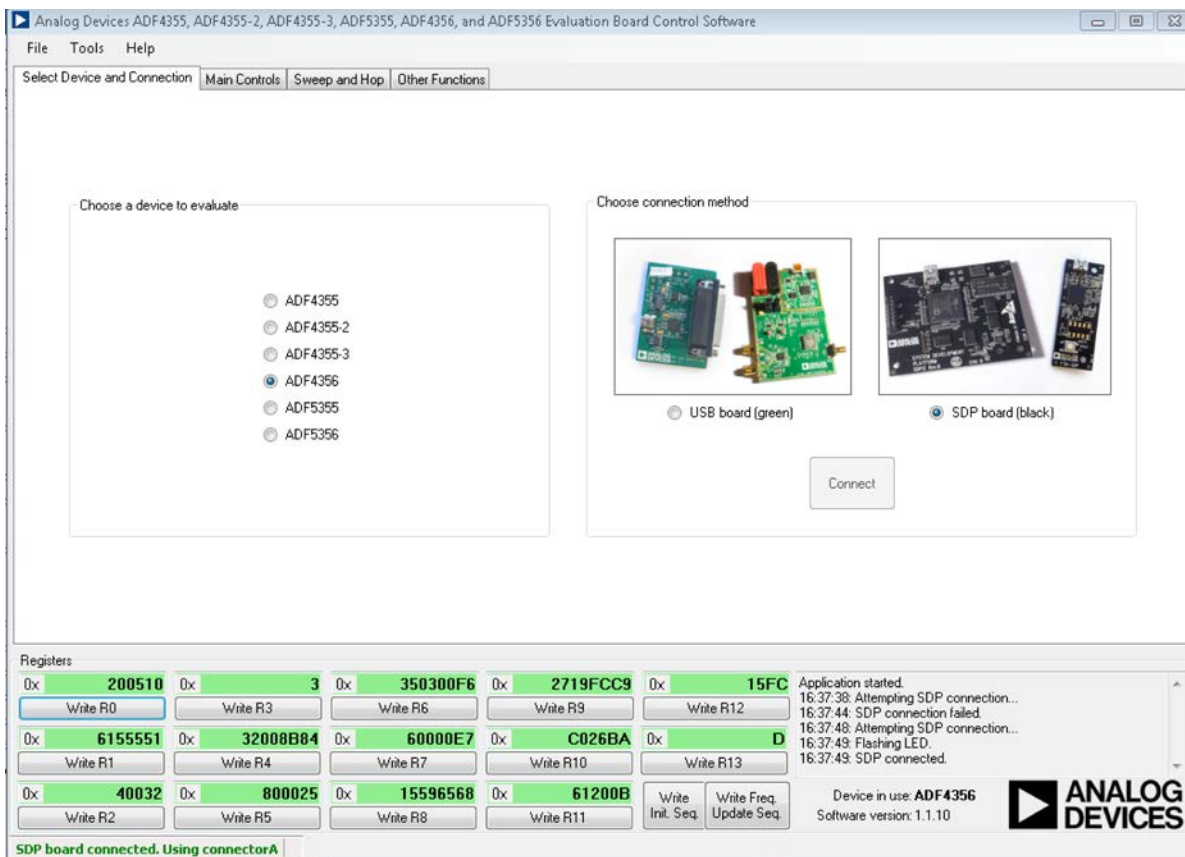

Figure 2. Software Front Panel Display—Select Device and Connection
2. On the **Select Device and Connection** tab, choose **ADF4356** and **SDP board (black)**, and then click **Connect** (see Figure 2).
8. Select **ADF4356** and **SDP board (black)** in the **Select Device and Connection** tab of the software front panel display window (see Figure 2).